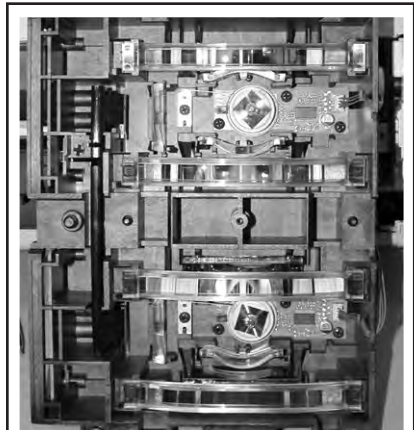

Figure 15. Internal scanner mirrors and lenses.
4. Using a powerful light source, observe the scanner optical lenses and mirrors shown in Figures 15 and close-up in 16.
and lenses shown in Figures 15 and 16. Using a bright light, re-examine the surfaces for dust and treat the surfaces accordingly.